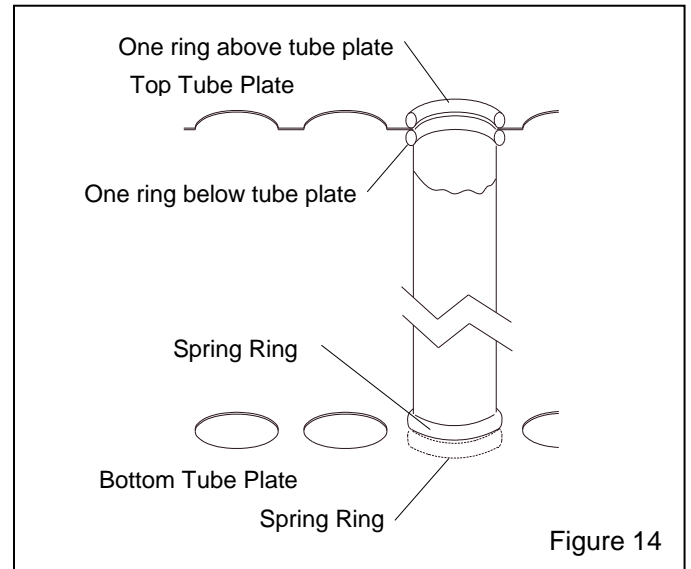

Figure 14
7.7 Dry Filter Tube Replacement, Figure 14.
7.7.1 Replace damaged filters immediately. Remove the old filters by pulling the spring rings off the bottom and top tube plates. Working from the back to the front, install one filter at a time. To install new filters, form the end of the spring ringed tubular filter into a shallow "c" shape, push the filter far enough into the hole of the top plate to allow one spring ring to snap into place above the tube plate and the other to snap into place below it. See the illustration in Figure 14.